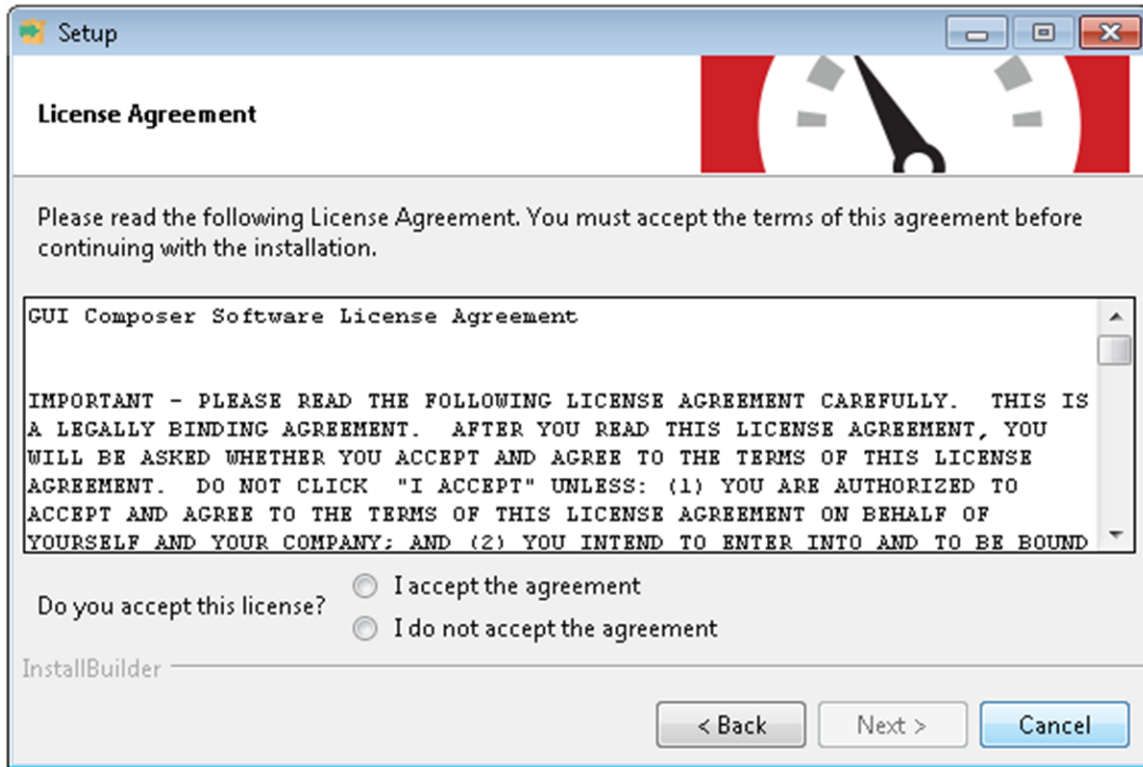

Figure 5. License Agreement
- A Screen as shown in Figure 5 will appear, displaying the license agreement of DRV8848 EVM GUI. Please read through the agreement carefully and enable the “I Accept the License Agreement” radio button and press the Next button.